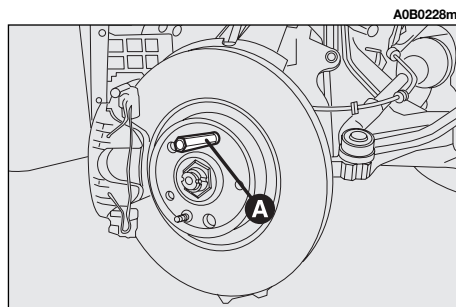

fig. 17
- tighten the pin (**A-fig. 17**) in one of the fastening bolt holes;
- remove the pin (**A-fig. 17**) and tighten the last fastening bolt;